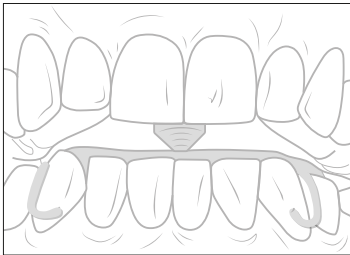

Fig. 3
13. The opening and closing movements make it possible to check in the mouth and see whether the tip of the arrow snaps into the hole of the Plexiglas roundel (Fig. 3).